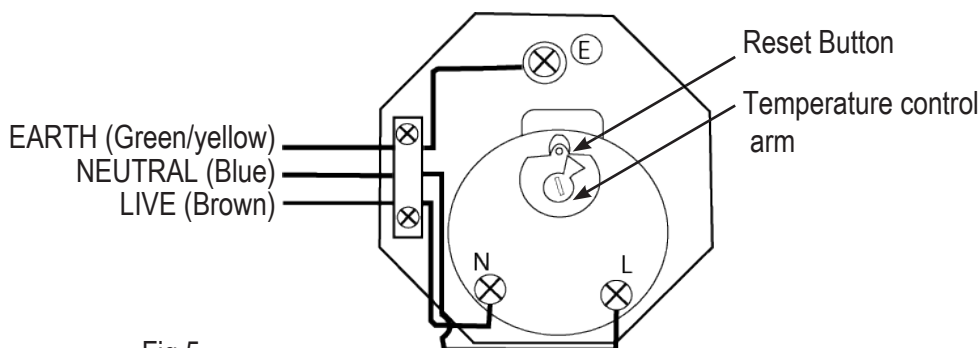

Fig.5
- Investigate the cause for the operation of the cut-out, rectify it if possible before manually resetting the thermostat by depressing the small white button located next to the temperature control arm as indicated in Fig.5